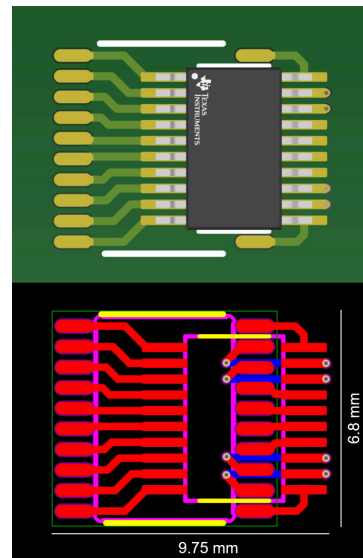
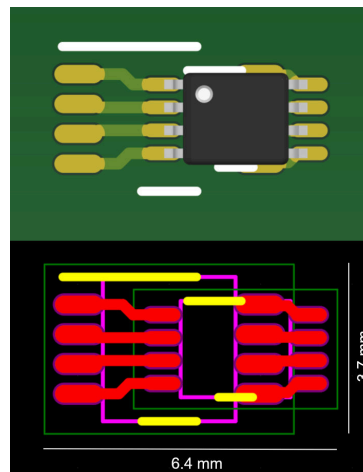

Figure 3. PW + DGS Dual Footprint
Figure 4. DCU + DCT Dual Footprint
Package combinations where the smaller package does not fit inside the larger package can still be used in dual footprints by overlapping the packages as shown in Figure 3 and Figure 4.
Figure 3 shows a dual footprint for a TSSOP (PW) 20 pin package and a VSSOP (DGS) 20 pin package.
Figure 4 shows a dual footprint for a VSSOP (DCU) 8 pin package and a SSOP (DCT) 8 pin package.